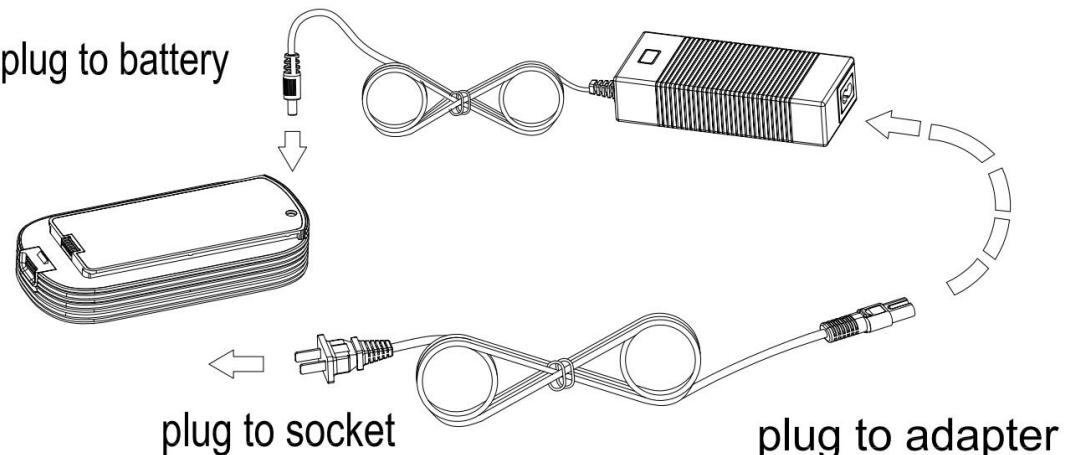

Figure 7 - Charge the battery separately
- ①As shown in Figure 7, connect the AC adapter to charge the battery;
- ②Remove the battery according to the method shown in Figure 3, and then connect it to an AC adapter according to Figure 7 to charge.